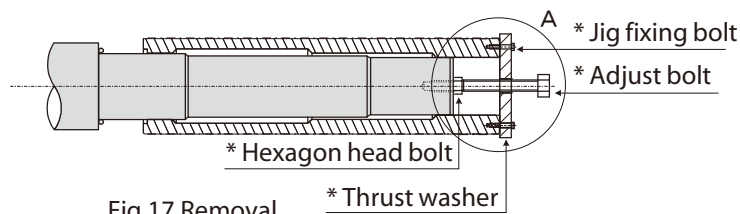

Fig.17 Removal
Removal procedure (Fig.17)
- (2) Set a thrust washer and hexagon head bolt. Remove the reducer from the driven shaft using adjust bolt. (Note) The mounting/removal jig (parts with * in section A of Fig.17) is optional. Order them as necessary.